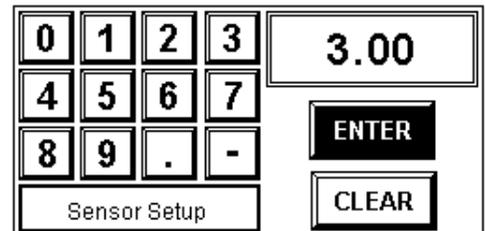

Figure ZD.3-12: Sensor Type Entry Screen for Dual-Sensor Model 10XABR Sensors
- 3) Press “SETUP” to continue the 10XBR-Series dual-sensor type setup. The *Numeric Entry Screen* is displayed for the entry of the appropriate sensor type number {Figure ZD.3-12}. The current sensor type in RAM memory is shown in the Display Window.
- 5) Enter the Dual-Sensor 10XBR-Series as sensor type by the number (3) and press the “ENTER” button to accept.